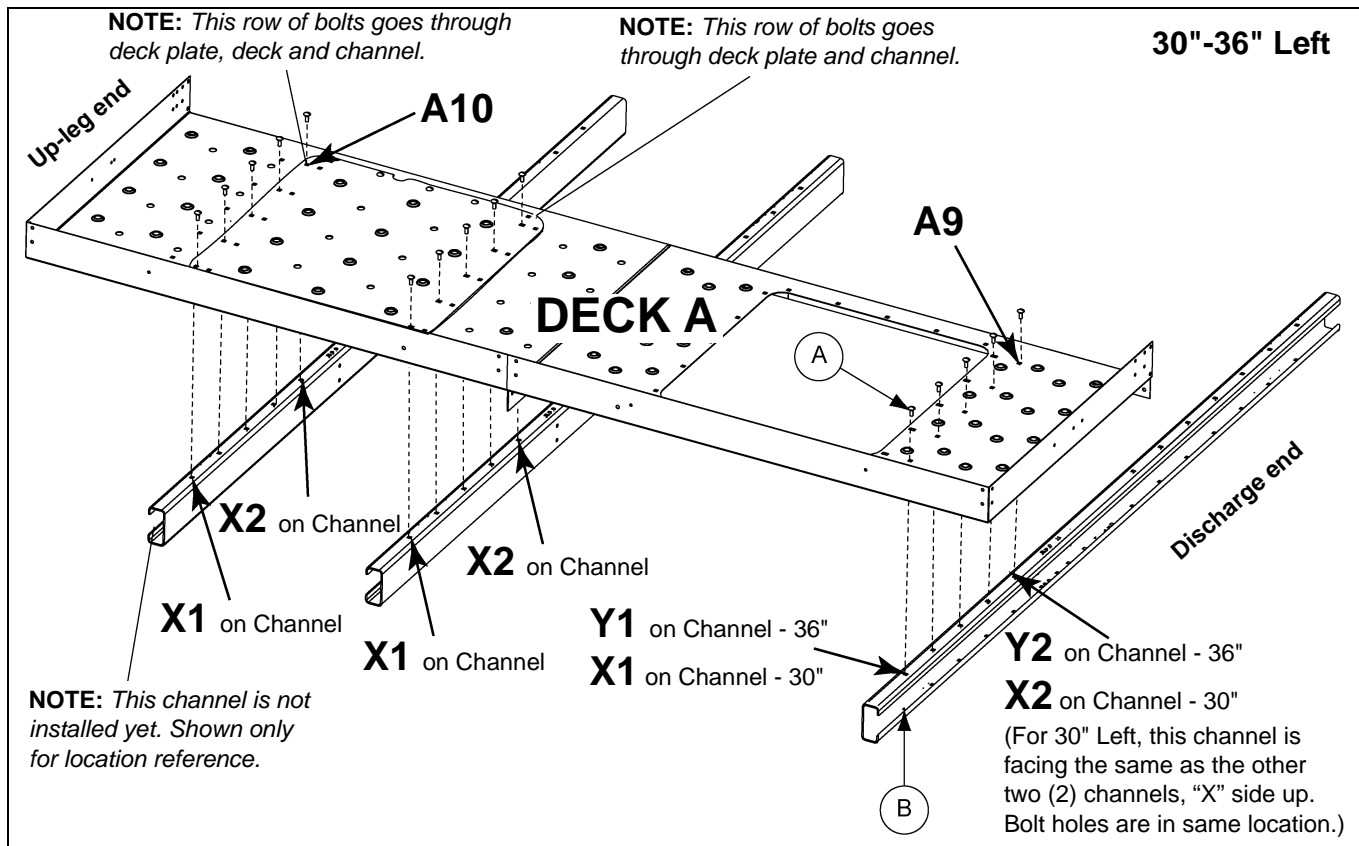

Figure 9H
3. On the **Discharge End**, use a punch as needed to line up. (See Figure 9H.)
- b. At the **hatch side** - Channel hole **X2** on the cross deck support channel to Deck A hole **A10** and deck plate cover. (See Figure 9H on Page 70.)